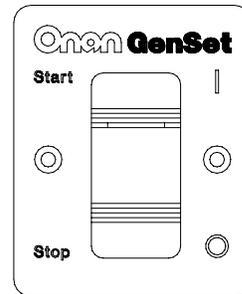

FIGURE 4. REMOTE SWITCH
- Remote switch with indicator lamp only (Figure 4).